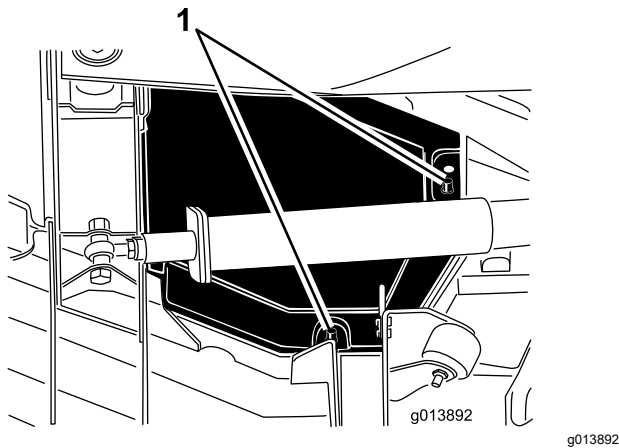

Figure 46
4. Lift the rear and inside cover edges off the mounting posts (Figure 46).